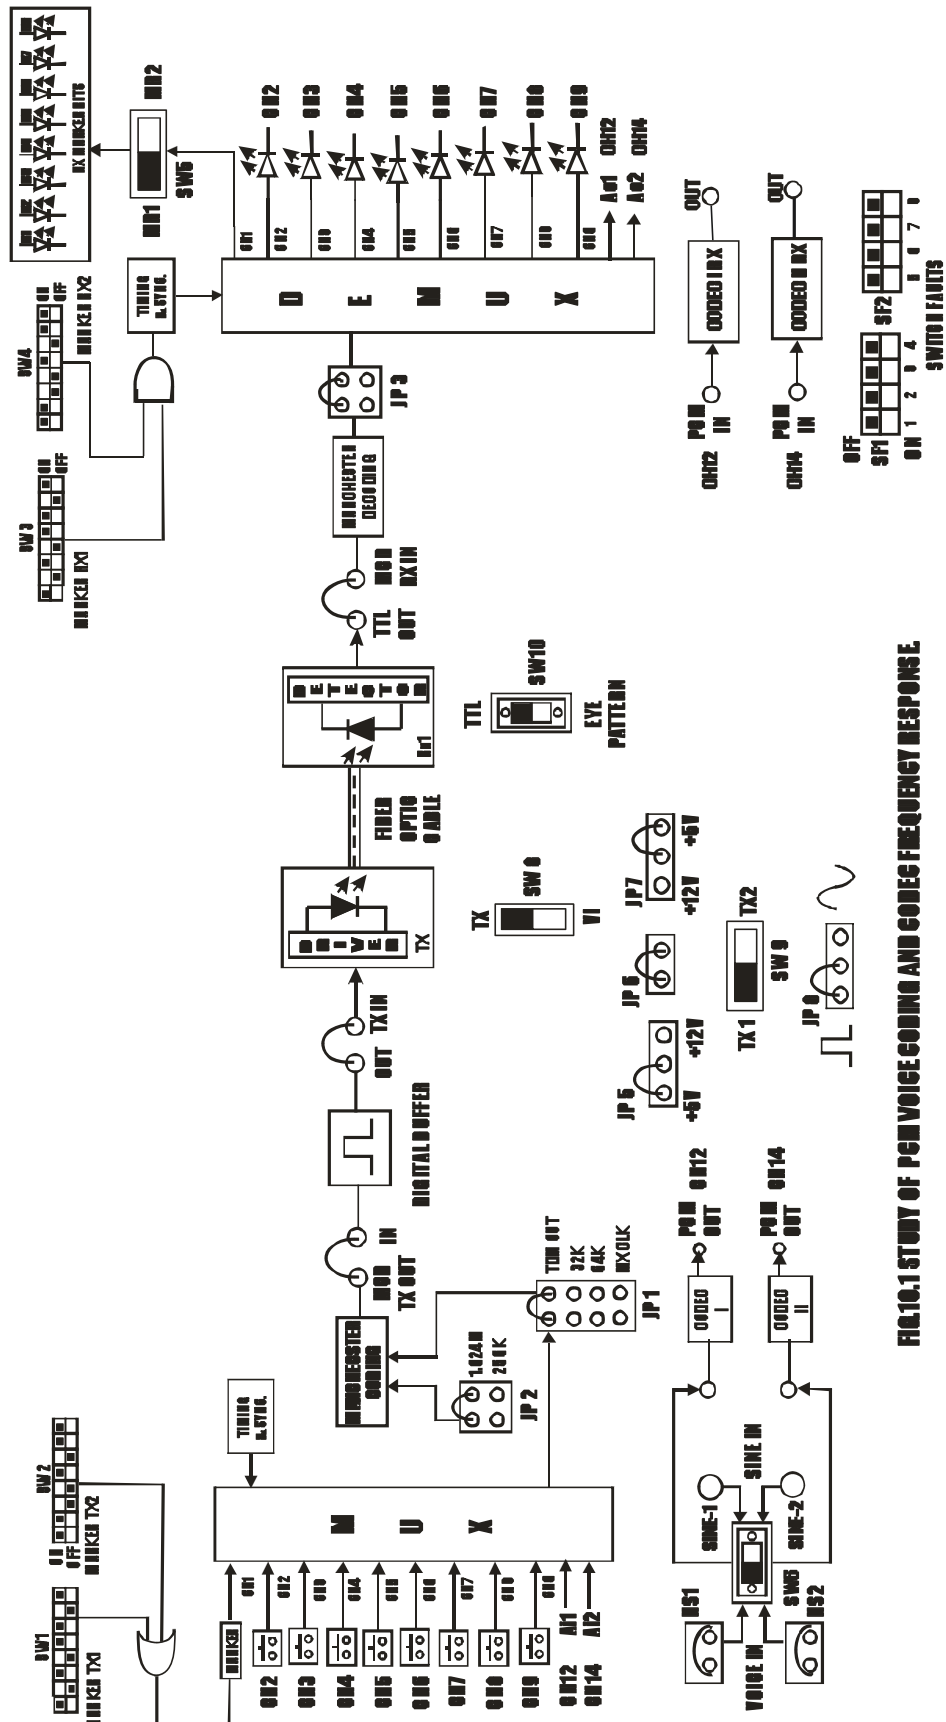

FIG.10.1 STUDY OF PCM VOICE CODING AND CODES FREQUENCY RESPONSE
- Make connections as shown in fig.10.1. Connect the power supply cables with proper polarity to FOL-A-P Kit. While connecting this, ensure that the power supply is OFF.